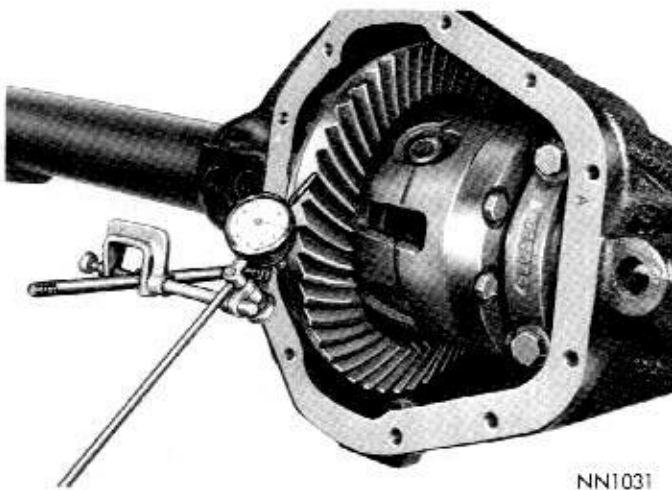

Fig. 43—Checking Backlash Between Drive Gear and Pinion
(3) Remove differential and ring gear assembly from carrier.
(4) Remove differential bearing cones. Install the correct thickness shim pack as determined in step 2 between bearing cone and differential case hub shoulder using Tool C-4025. Add an additional .015 inch shims to the drive gear side of differential and install the differential bearing cones. This additional .015 inch shim pack provides the correct bearing preload and backlash.
(5) Position spreader Tool W-129 in locating holes of carrier and tighten screw finger tight. Install dial indicator and spread carrier .015 to .020 inch. Do not exceed this limit to permit placing of differential and ring gear assembly in carrier.
(6) Install the bearing caps in their respective positions as indicated by identification marks on caps and carrier. Remove the spreader tool. Coat the bearing cap bolt threads with sealing compound and install and tighten bolts snugly.
(7) Tap the drive gear lightly with a rawhide hammer to properly seat the differential bearing and cups. **Care must be taken in this operation to prevent nicking the teeth of ring gear or drive pinion as they are meshed together.** Tighten the bearing cap bolts to 70-90 foot-pounds.
(8) Attach a dial indicator to carrier and with indicator contact point contacting ring gear tooth (Fig. 43), measure the backlash between the ring gear and drive pinion.
(9) Check backlash at four equally spaced points around circumference of ring gear. Backlash must be held between .004-.009 inch and cannot vary more than .002 inch between the four positions checked.